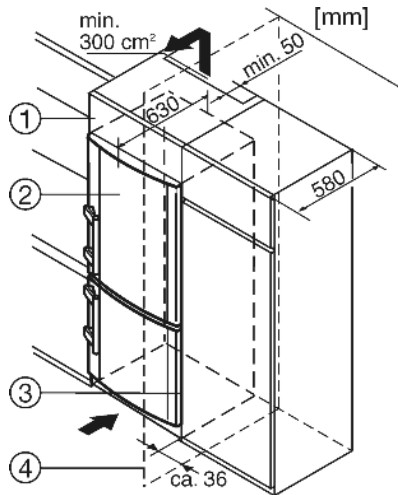

Fig. 9
- (1) Stack cabinet
- (2) Appliance
- (3) Kitchen cabinet
- (4) Wall
The appliance can be inserted into a row of kitchen units. To match the appliance Fig. 9 (2) to the height of the row of units, a suitable stack cabinet Fig. 9 (1) can be fitted above the appliance.
When inserting the appliance into a row of standard kitchen units (max. depth 580 mm), the appliance can be installed directly next to the kitchen unit Fig. 9 (3). The appliance door projects relative to the front of the kitchen unit by 34 mm at the side and by 50 mm in the middle of the appliance. It can be opened and closed perfectly as a result.
If the appliance is installed with the hinges next to a wall Fig. 9 (4), the distance between appliance and wall has to be at least 36 mm. This corresponds to the projection of the handle when the door is open.